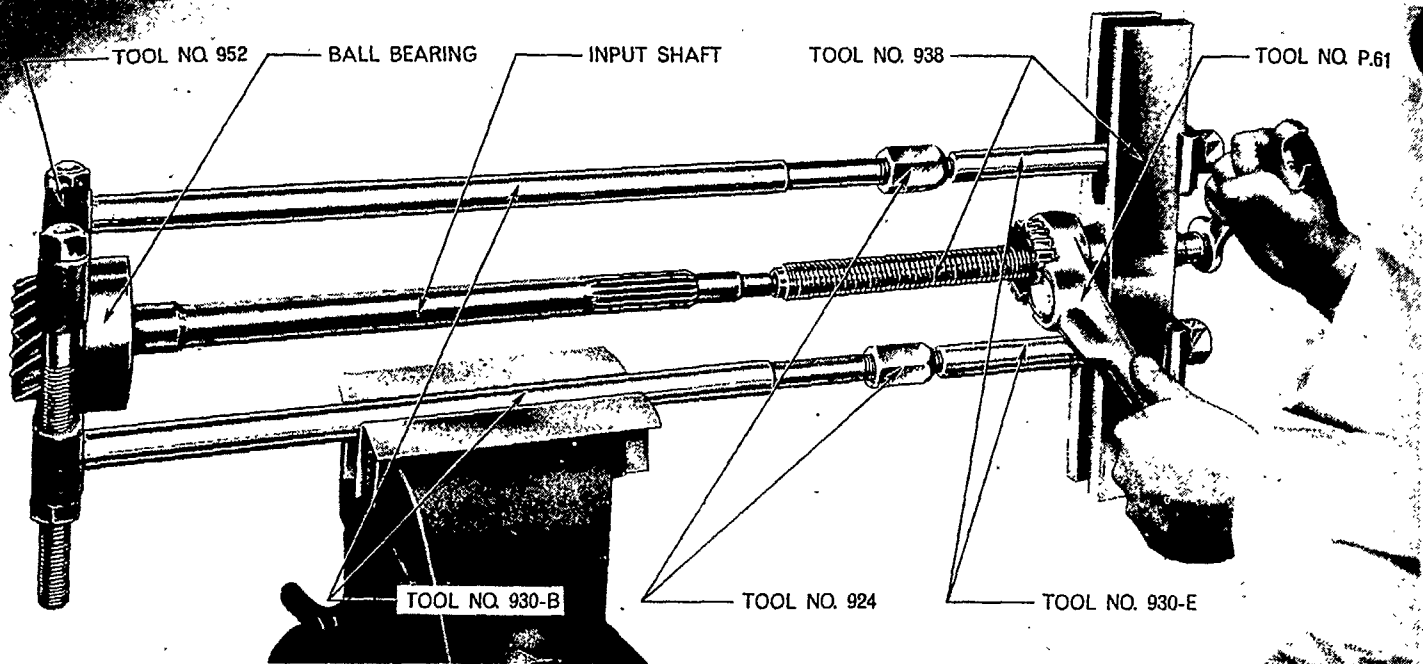

Figure 12
2. Inspect the oil seal journals and the gear teeth of the shaft for excessive wear or damage. Check the ball bearings for wear or damage. If necessary, remove the snap ring and draw the bearing off the shaft using Tools Nos. 952, 930B, 930E, 938, P61 and 724, Figure 12.